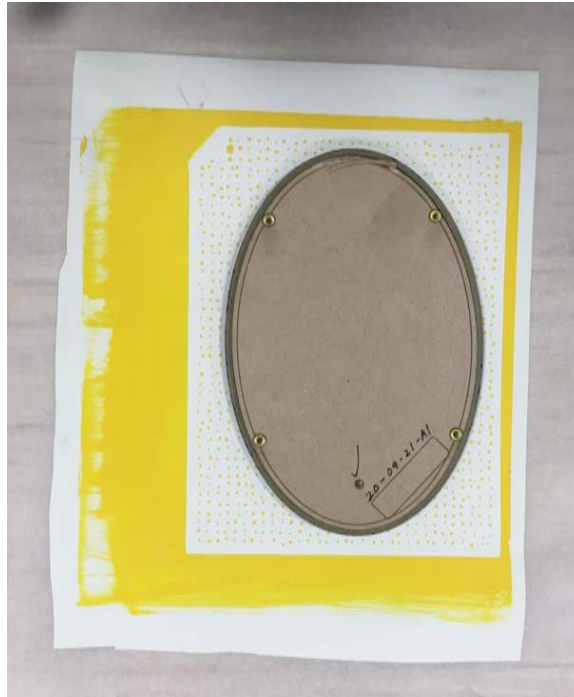

Figure 49: The latex cutting template placed around the adhered window
11. Place the 2.5 mm latex cutting template around the window (Fig 49).